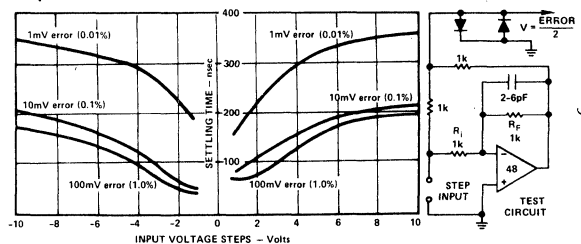

Figure 1. Settling Time for Various Input Steps
*PINS FOR CONNECTING OPTIONAL OFFSET POTENTIOMETER. SEE FIGURE 1.
Shown in Figure 1 is a graph of settling time for various step inputs and the test circuit used to obtain this data. Settling time varies in a nonlinear fashion with input level, error band,